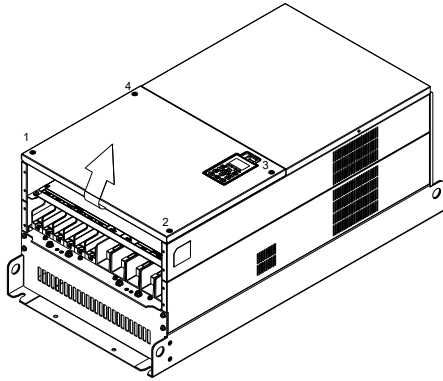

Figure 1
1. Loosen the screw (figure 1) and remove the cover. Screw torque: 12~15 kg-cm / [10.4~13.1 lb-in.] / [1.2~1.5 Nm]